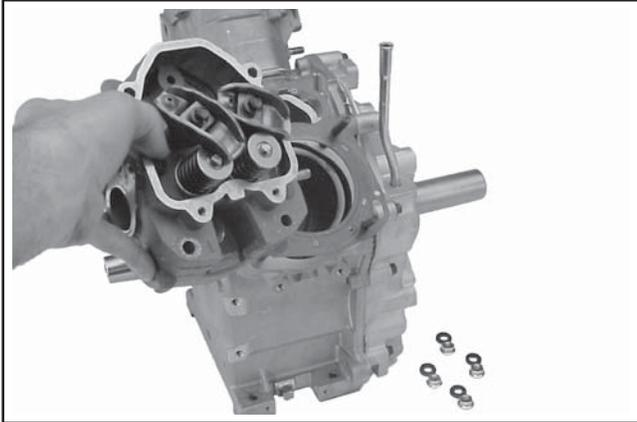

Figure 9-52. Removing Cylinder Heads and Gaskets.
4. Remove the four hex flange nuts and washers from the cylinder head studs. Carefully remove the cylinder heads and head gaskets. See Figure 9-52.